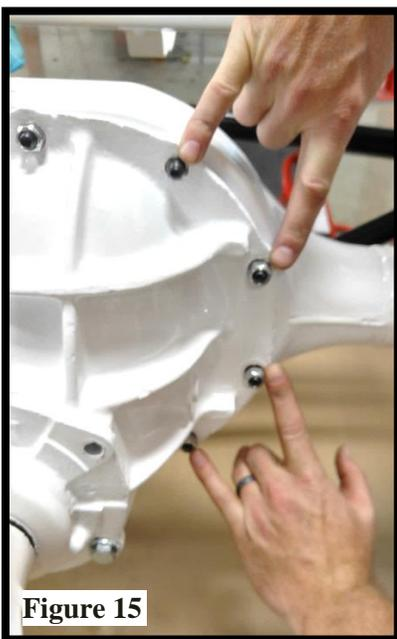
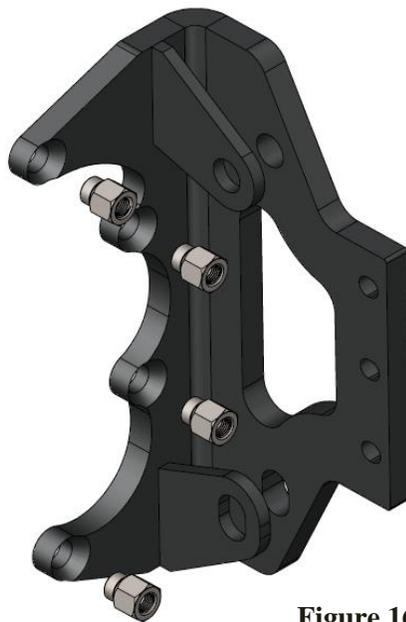

Figure 15
Figure 16
24. Mount the torque arm bracket to the differential by removing the four drivers side nuts from the front side of the differential. **(Figure 15)** Re-using the original crush washers between the 3rd member and the torque arm bracket, mount the torque arm bracket using blue loctite on the shouldered nuts from the Torque Arm Hardware Kit (p/n 7039-243). Torque to 37 lb. ft. **(Figure 16 & 17)**